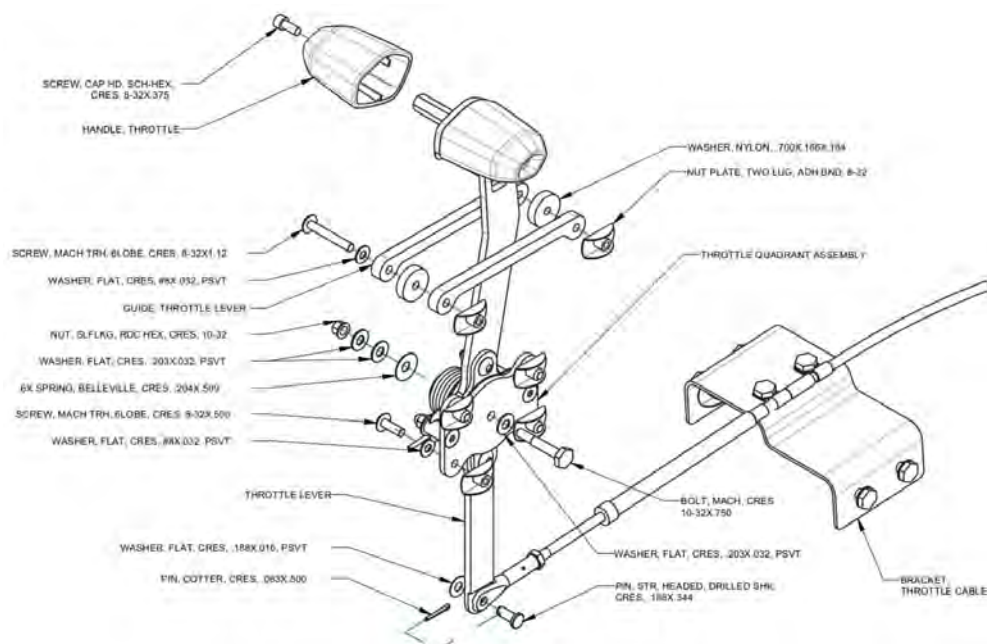
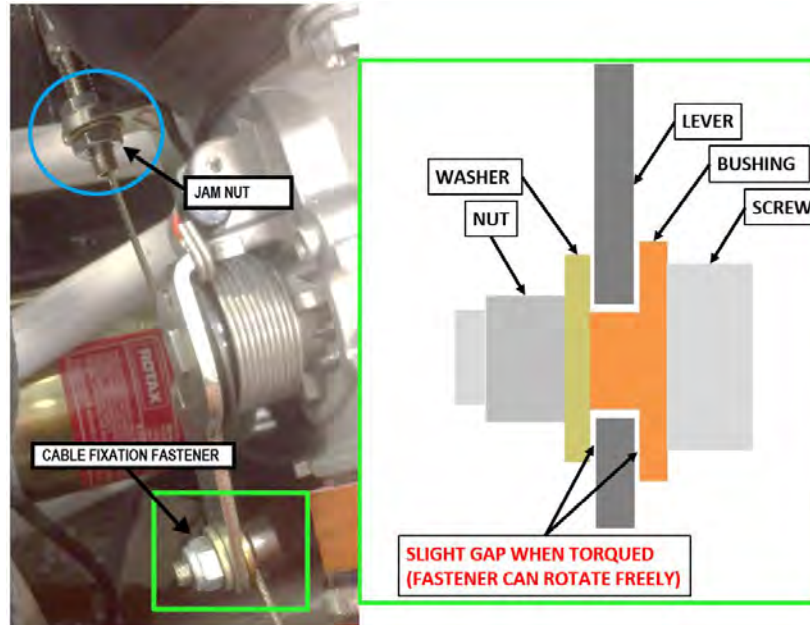

FIGURE 17-21
FIGURE 17-24
4. Check that the throttle cable is secured and connected appropriately to throttle lever. (See Figure 17-21. See Figure 17-24.)
8. Adjust position of cable in cable fixation fastener as required. (See Figure 17-24.)
10. Inspect for any loose bolts. (See Figure 17-21.)